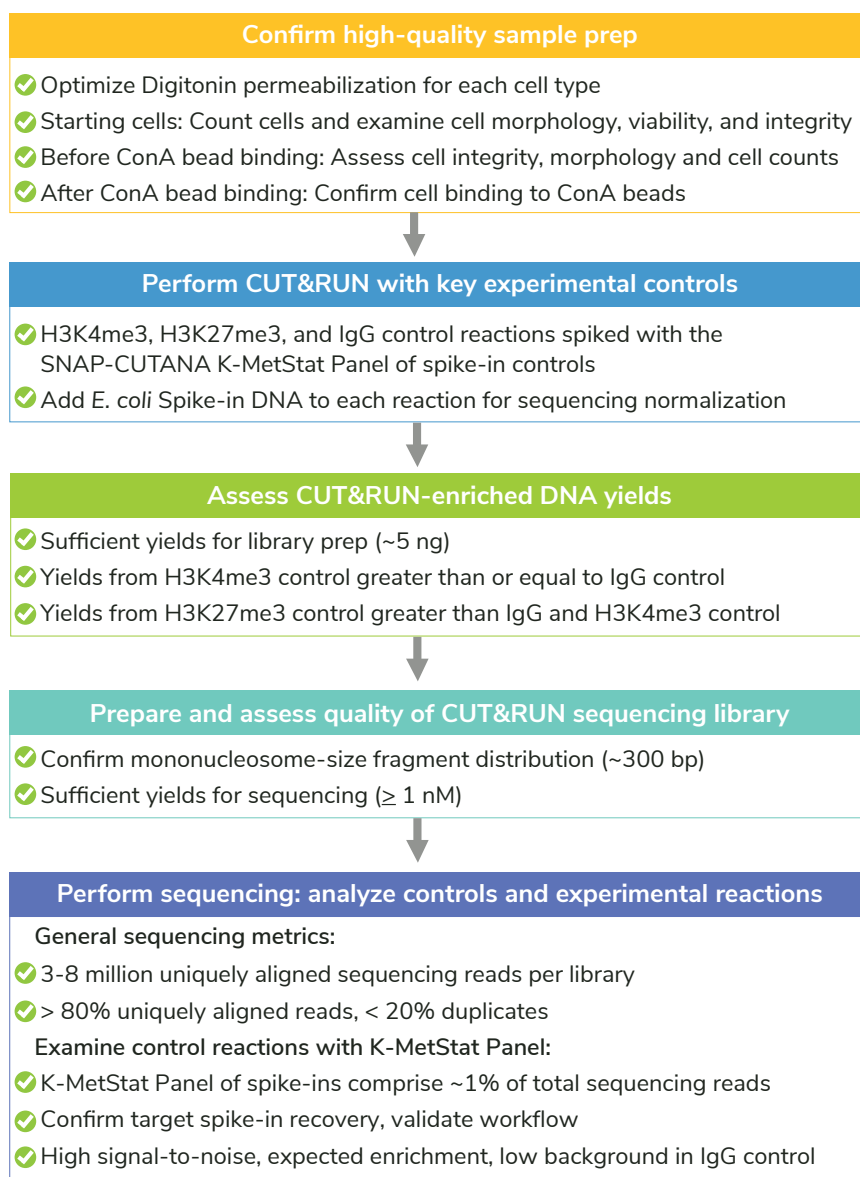

FIGURE 6
- The kit contains multiple quality control checks (Figure 6) to ensure reliable CUT&RUN assays. See support.epicypher.com for guidance regarding assay controls and success metrics.